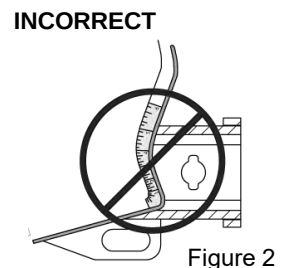

Figure 2
- o Do not measure from visible bumper front of corner, upwards (Figure 2).